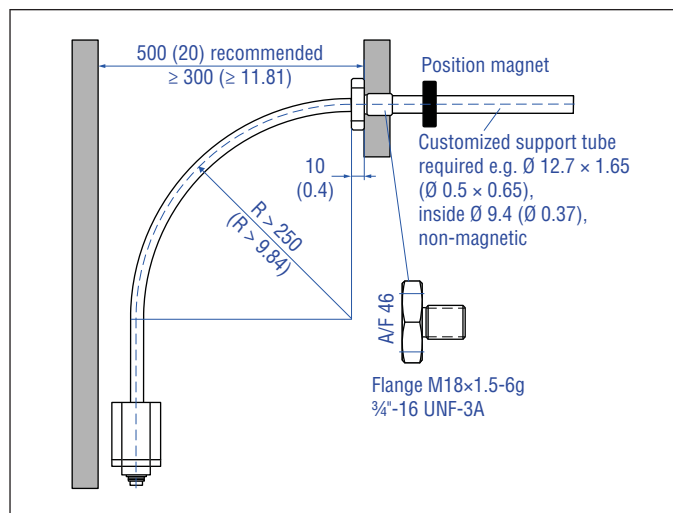

Fig. 14: Clearances for installation and handling
3. Note the minimum distance to a spatial limitation of 300 mm (11.81 in.), when mounting/dismounting the sensor. The recommended distance is 500 mm (20 in.) (Fig. 14).